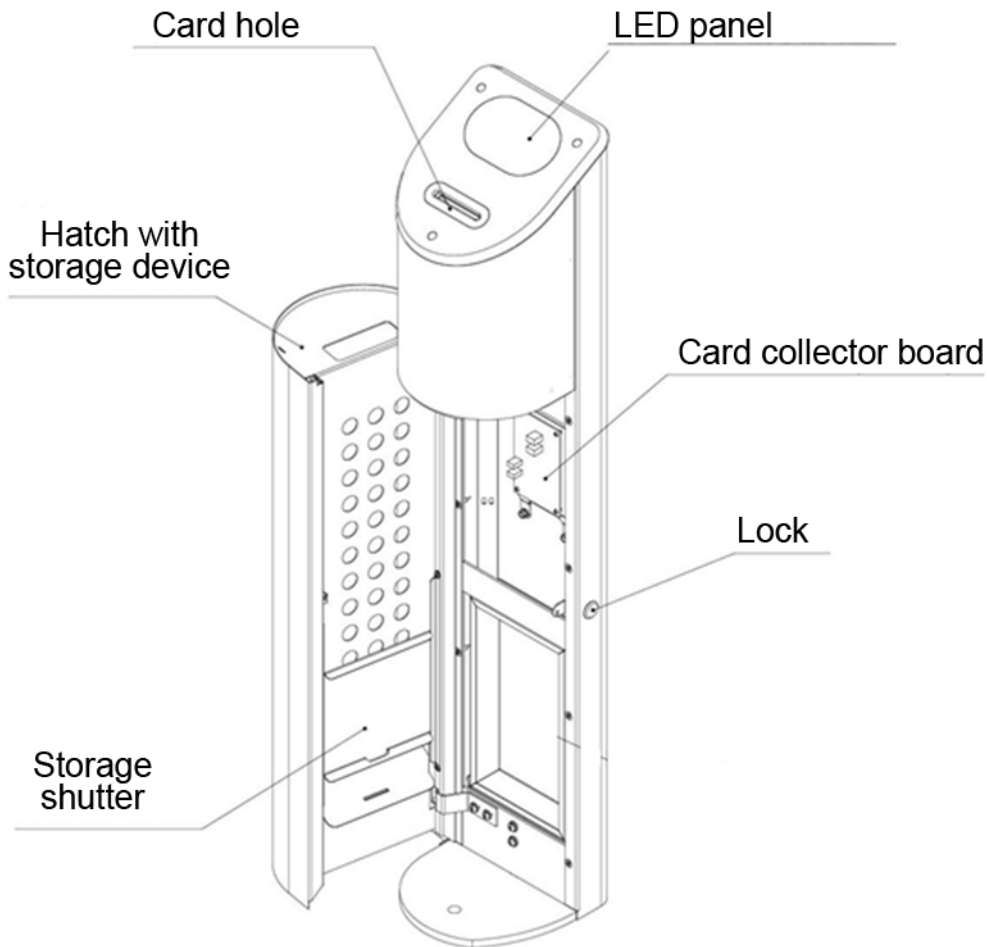

Fig 1. *General view of card collector*
Connect the power supply unit to network 220V and turn it on. Card collector will beep and red cross will turn on LED panel (Fig. 1). Card collector is ready for operation.
- Open the hatch of the card collector using the key (Fig. 1);
7.3.1. Open the hatch lock of card collector with a key (Fig. 1).